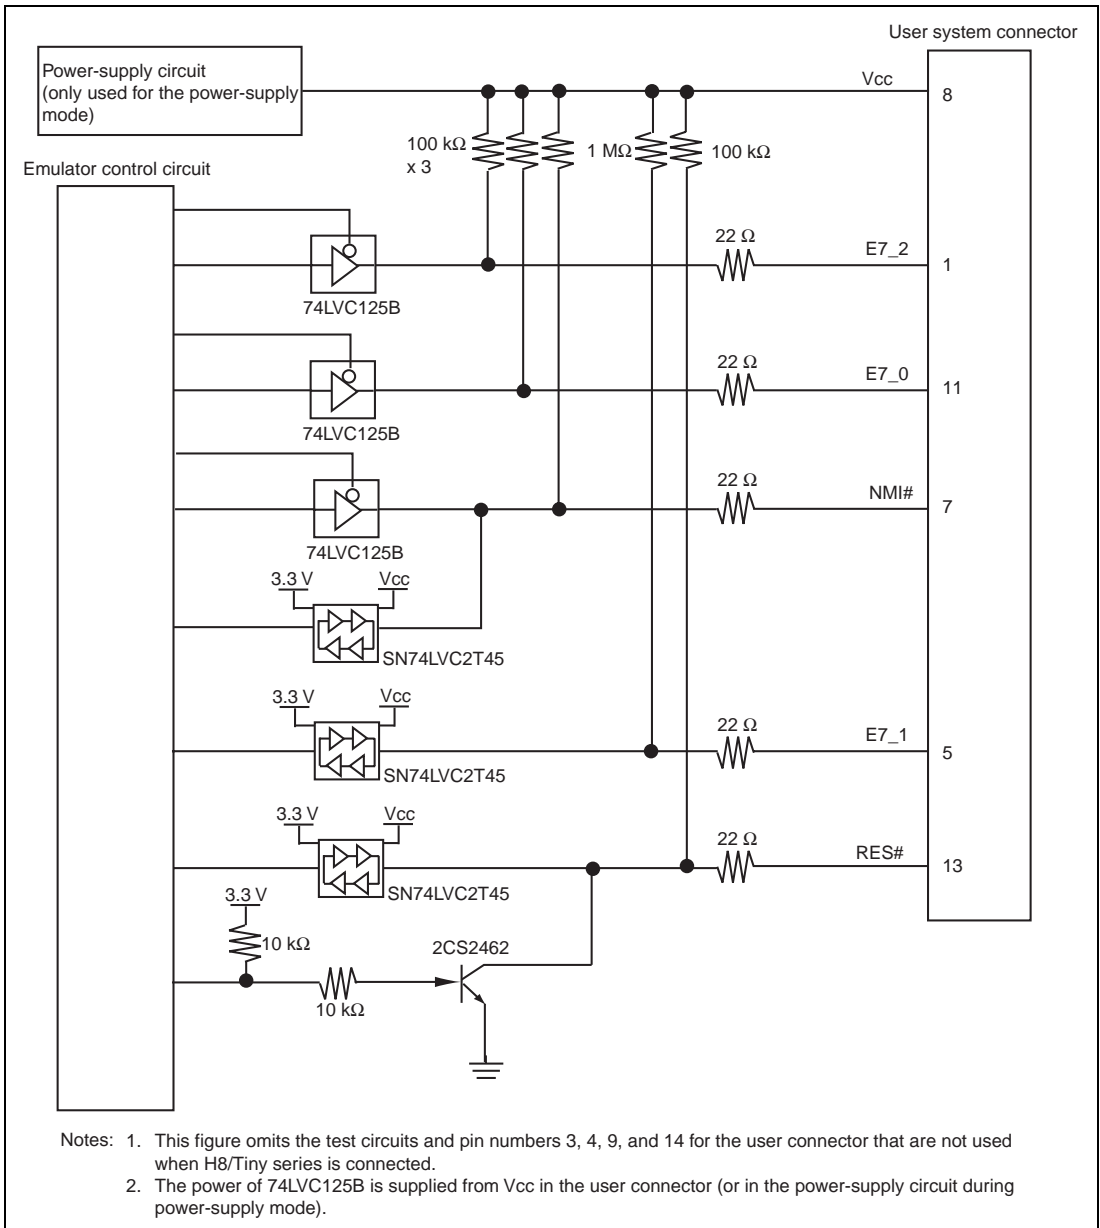

Figure 4.6 Interface Circuit in the E8a Emulator (Reference)
9. Figure 4.6 shows the interface circuit in the E8a emulator. Use this figure as a reference when determining the pull-up resistance value.